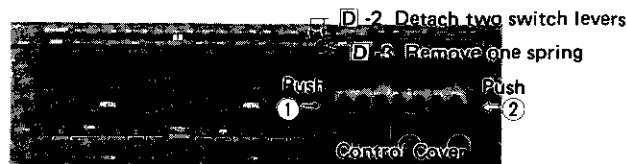

Figure 4-4
3. Remove one spring from the frame. See Fig. 4-4.
4. Push the control cover at its two places (① and ②) in the arrow directions as shown in Fig. 4-4, then take it off.
* Detach the left side (①) first, then the right side (②).